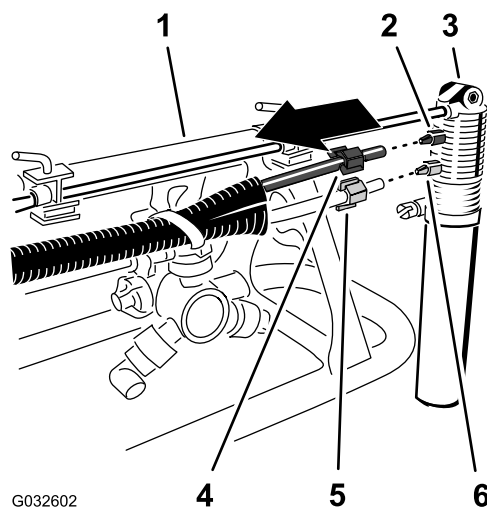

Figure 19
2. At the foam-marker nozzle, loosen the compression nut that secures the blue tube (water) to the blue compression fitting of the foam-marker nozzle (Figure 19).
3. Loosen the compression nut that secures the clear tube (air) to the white compression fitting of the foam-marker nozzle of the foam-marker nozzle (Figure 19).
5. Remove the compression nuts at the ends of the tubes (Figure 19).